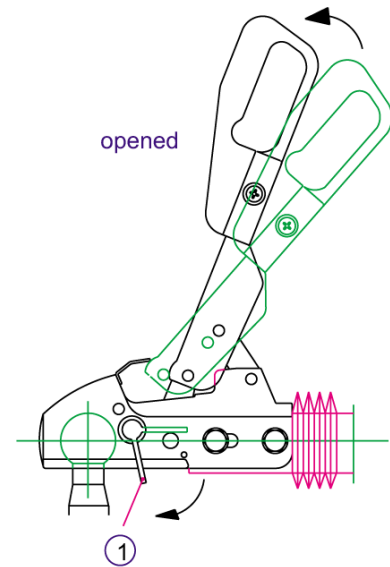
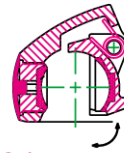

Fig. 4: Coupling position
Fig. 8: Arrangement of the friction linings
The opened drawbar ball coupling is mounted on the coupling ball of the towing vehicle (Fig. 4).
Press locking device ① fully and hold it there until the operating lever has been moved upwards into the opened position (Fig. 4). After the light connector and safety cable have been detached, the trailer can be uncoupled from the towing vehicle, e.g. using a drawbar running wheel.
It is recommended for a prolonged period out of use to park the trailer with the drawbar ball coupling closed. Lift the opened operating lever (Fig. 4), and at the same time pull the ball pan (moving element with a friction surface - Fig. 8) forward, and slowly close the drawbar ball coupling.
The interior of the drawbar ball coupling around the friction linings is to be kept clean and free of grease (Fig. 8). All the moving bearing parts and pins are to be oiled slightly. Regular maintenance and care will extend the service life and increase the functionality and safety of your WS 3000.